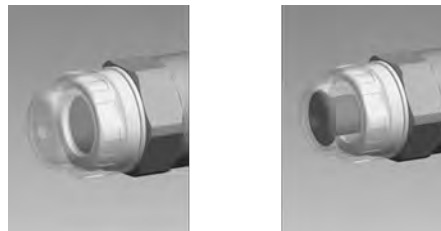

Fig. 10: Visual diaphragm rupture sensor, triggered and untriggered
With the **visual** diaphragm rupture sensor, the lowered red cylinder (6) springs forward beneath the transparent cover (7) so that it then becomes clearly visible Fig. 10.